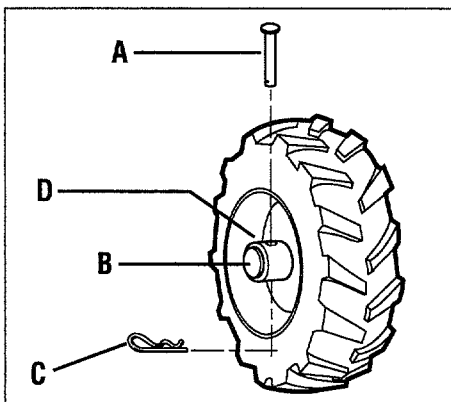

Figure 3-2: WHEEL DRIVE position.
Each wheel is equipped with a Wheel Drive Pin (A, Figures 3-2 and 3-3) that secures the wheel to the wheel shaft (B). The wheels can be positioned in either a WHEEL DRIVE or a FREEWHEEL mode.
3. Remove the hairpin cotter (C, Figures 3-2 and 3-3) from the wheel drive pin (A).
4. FOR WHEEL DRIVE mode (Figure 3-2): Slide the wheel outward and align the holes in the wheel hub (D, Figure 3-2) and the wheel shaft (B). Insert the wheel drive pin (A) through the wheel hub and the wheel shaft. Secure the wheel drive pin with the hairpin cotter (C) by pushing the hairpin cotter in as far as it will go. Repeat for the other wheel and then remove the support from beneath the transmission.